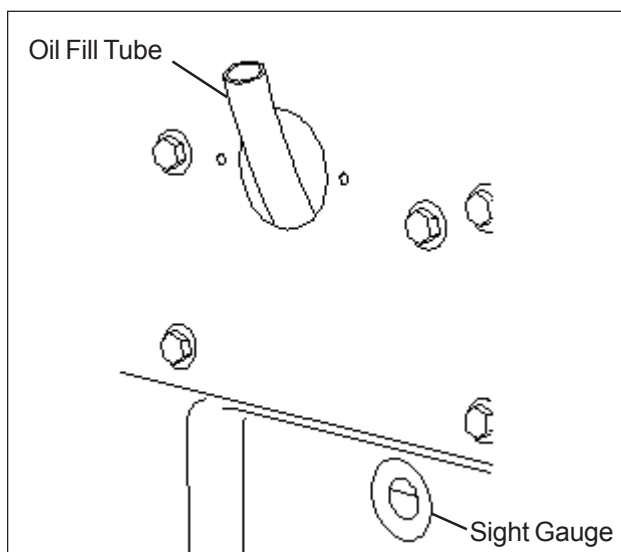

Figure 6: Oil Level Sight Gauge and Fill Tube
- a. Periodically check oil level in sight gauge on (left side of head) (refer to Figure 6).